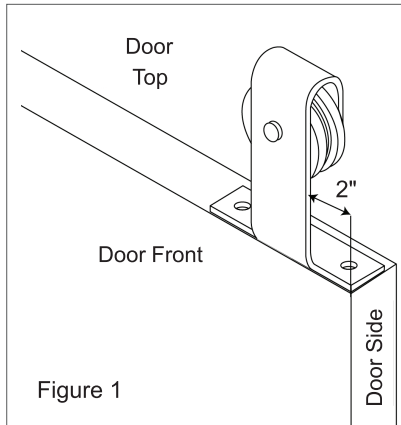

Figure 1
1. Place the hanger on the top edge surface of the door, with the vertical front of the hanger 2" from the edge of the door side and flush with the door front. Ensure the front of the hanger and the front of the door are facing the same direction (Figure 1).